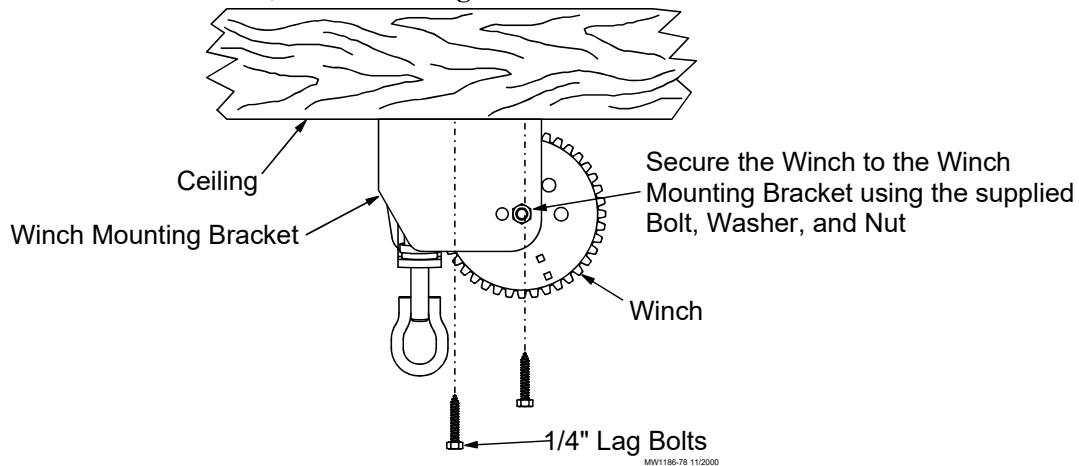

Figure 11. Winch Mounting
4. Mount the split drum winch as shown in **Figure 11**. Mount the winch to the ceiling or on a 2 x 8" [50 x 200 mm] board spanning at least two rafters for support. Use at least (4) 1/4" lag screws (not supplied) to secure winch to support.
5. Bolt the winch to the bracket, as shown in **Figure 11**.